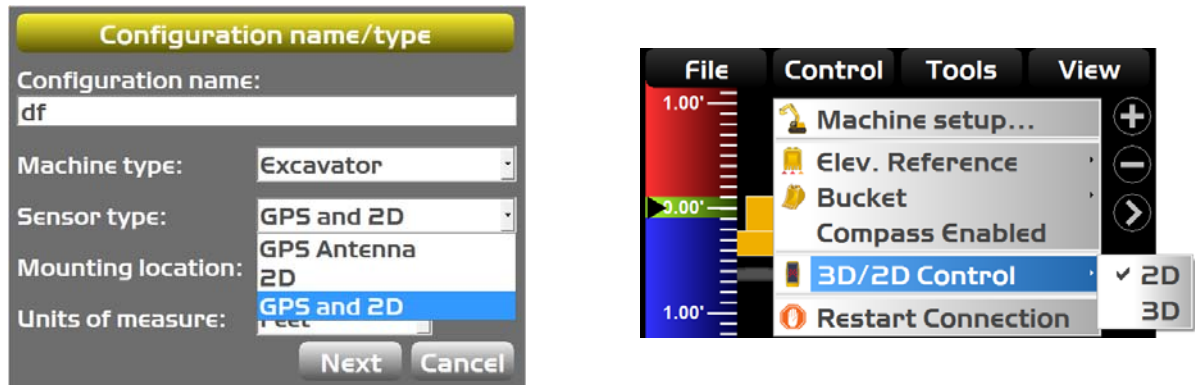

Figure 66: Machine Setup for String Line Verification
3. Ensure that your machine configuration is set up for GPS and 2D in 3D-MC (Figure 66).
4. Tap **Topcon Menu Button** ▶ **Control** ▶ **3D/2D Control** ▶ **2D** to place the machine into 2D mode (Figure 66).